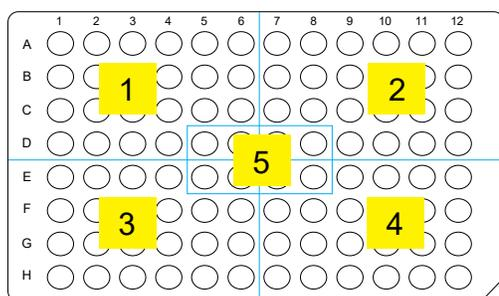

Figure 3 The 5 plate sectors.
- Vortex deepwell plates for 5 seconds in each of the 5 sectors. See the sectors in Figure 3.